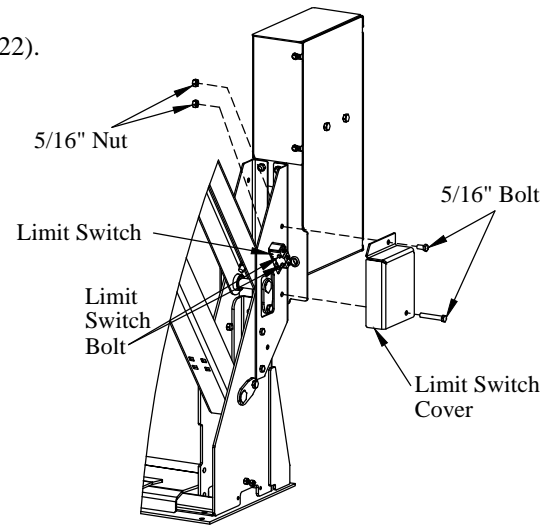

Figure 22: Limit Switch.
5. **Remove** the limit switch cover by removing two (2) 5/16" bolts and nuts (Figure 22).
6. **Loosen** the bolts holding the limit switch (Figure 22).
9. **Install** the limit switch cover with 5/16" bolts and nuts. Be careful not to over tighten the 5/16" bolts (Figure 22).